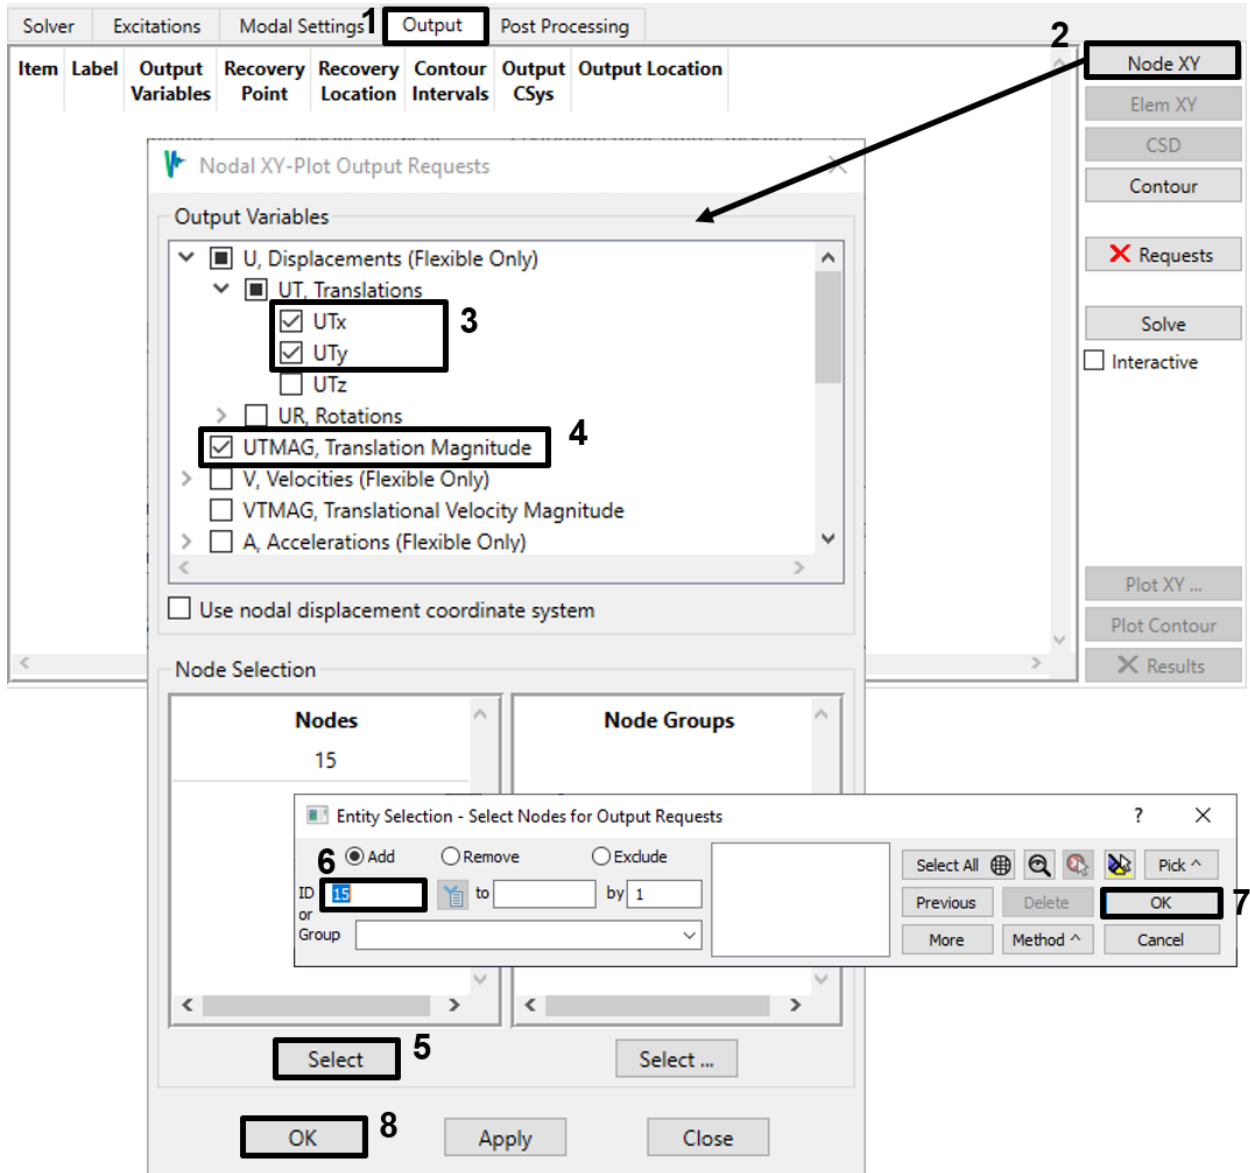

Figure 4-118. Request displacement plots for node 15.
- Go to the *Output* tab. To get a measurement of the structure's movement over time, create Nodal XY Plot output request for X and Y displacements ( $U_{tx}$ ,  $U_{ty}$ ) and displacement magnitude ( $UTMAG$ ) for node 15, as in Figure 4-118.